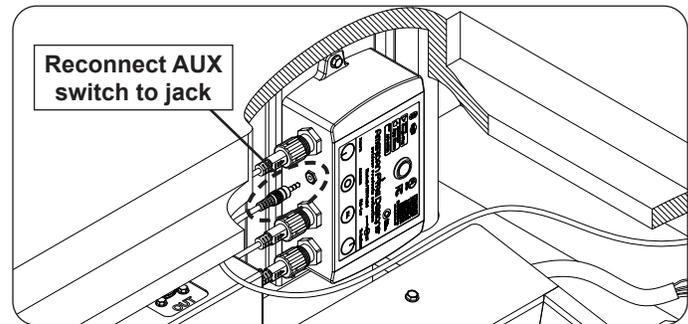

Fig. 33-2 Reconnect AUX switch
6. Reconnect the AUX switch (see Fig. 33-2).